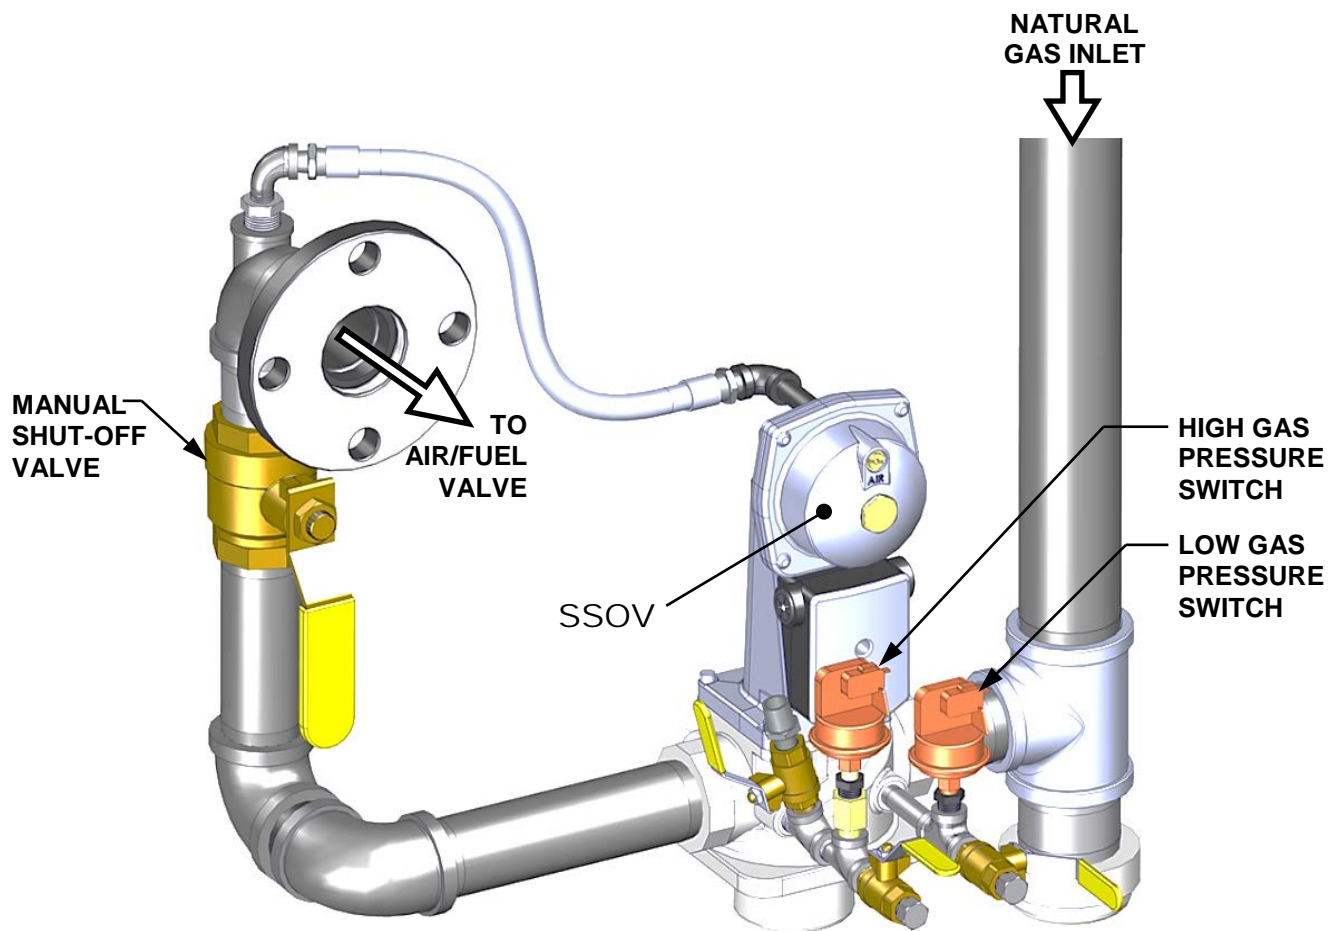

Figure 3-3: BMK 1500/2000: SSOV Location
2. The unit checks to ensure that the Proof of Closure (POC) switch in the downstream Safety Shut-Off Valve (SSOV) is closed. See Figure 3-3 for SSOV location.